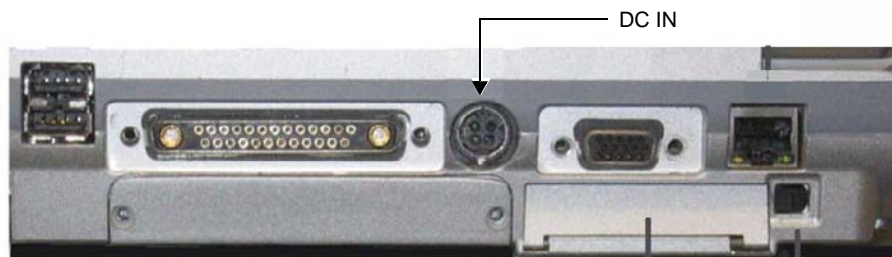

Figure 4-1 Mains Power Connector - Rear Panel
- 5.) Connect the Mains Power Cable female plug via the AC Adapter to the Power Inlet (DC IN - refer to Figure 4-1) at the rear of the unit.